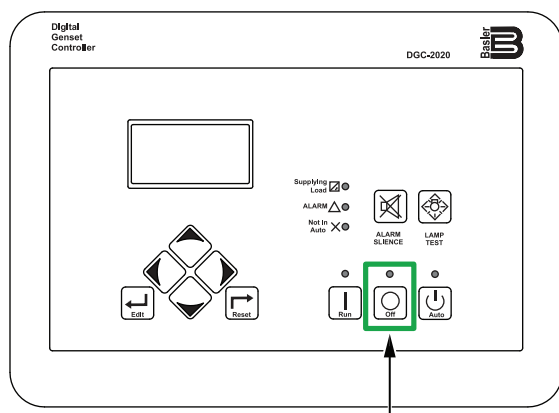

Figure 50. Digital Controller (OFF Button)
3. Press the **OFF button** on the digital controller (Figure 50) to stop the engine. The engine will stop after a 1-minute cool-down process.
When the remote contacts are opened, the engine will stop. To exit Auto mode, press the **OFF button** on the digital controller (Figure 50). The circuit breaker will automatically turn **OFF** and the engine will stop after a 1-minute cool-down process.
3. Press the **OFF button** on the digital controller (Figure 50).